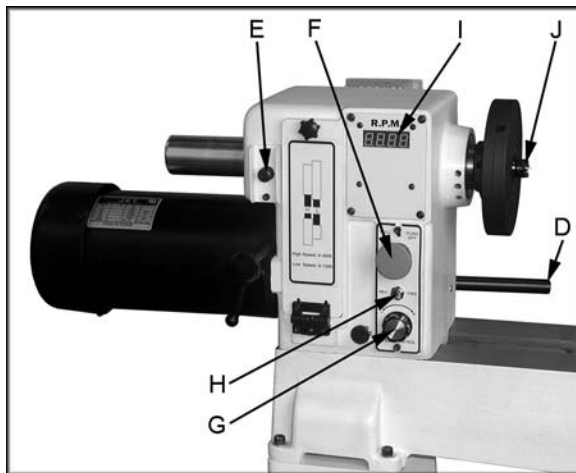

Figure 6
1. **Headstock Lock Handle:** (D, Figure 6) Locks head in position. Unlock handle to position the head along lathe bed. Tighten handle when properly positioned.
2. **Headstock Spindle Lock:** (E, Figure 6) Push pin in to keep the spindle from turning. **CAUTION! Never press the headstock spindle lock while the spindle is turning!**
3. **Headstock On/Off Button:** (F, Figure 6) Pull the button out to turn "ON" the lathe. Push the button in to turn the lathe "OFF".
4. **Headstock RPM Knob:** (G, Figure 6) Turn knob to desired RPM. There are two speed ranges offering "speed" (0-3200) and "torque" (0-1,200).
5. **Headstock For/Rev Switch:** (H, Figure 6) Use the toggle switch to change the direction the spindle turns. Only change direction when the spindle has stopped.
6. **Headstock RPM Readout:** (I, Figure 6) Displays the spindle RPM, see Figure 7.
7. **Headstock Spur Center:** (J, Figure 6) Used for turning between centers. Spindle taper is MT-2. Remove spur center by inserting drift rod through the opposite end of the spindle and knocking spur center out.